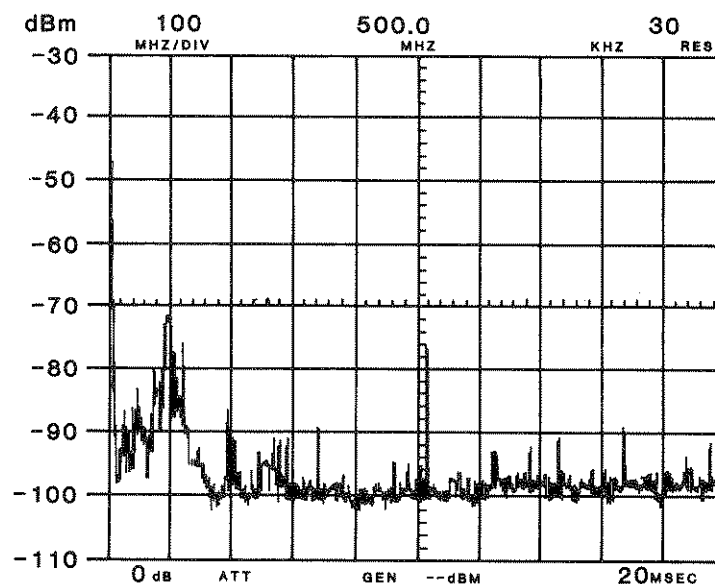

Figure 8-6 Initial Background or Ambient Signals
1. Turn on the A-8000 with the UUT turned off. Set it to a Center Frequency of 500.0 MHz and a Scan Width of 100.0 MHz/Div (Press "RF" "500.0" "ENTER" ). See Figure 8-6. This allows you to observe the full range of signals necessary for EMI measurements.